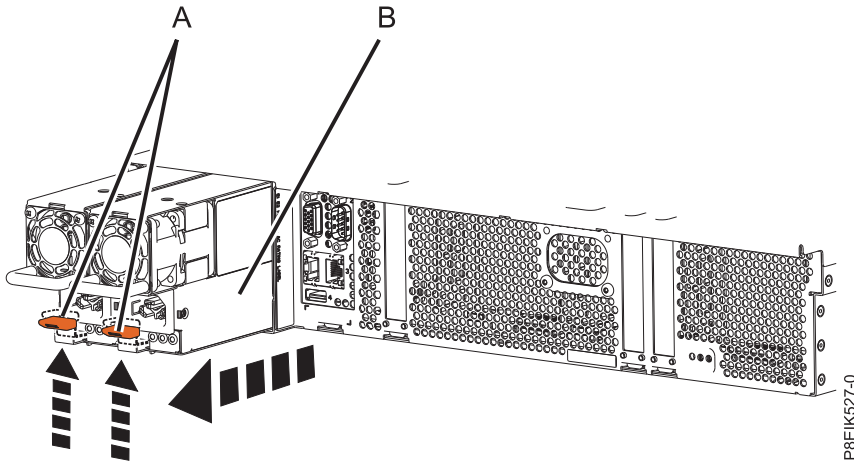

Figure 225. Removing a power supply from the system
- a. To unseat the power supply from its position in the system, pull up the terracotta locking-tab (A). See Figure 225.
- b. Grasp the power supply handle with one hand, and pull the power supply (B) part of the way out of the system.